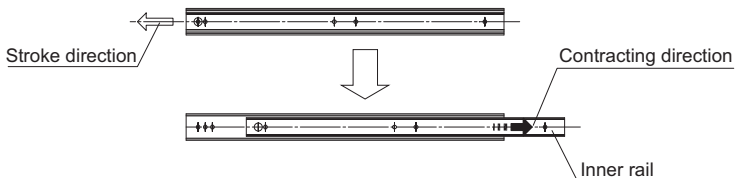

Fig.5
* For the following models, mount the inner rail by sliding it in the contracting direction as show in Fig.5. When doing so, do not remove the inner rail from the outer rail. If the inner rail is pulled out, it may be difficult to reinsert.